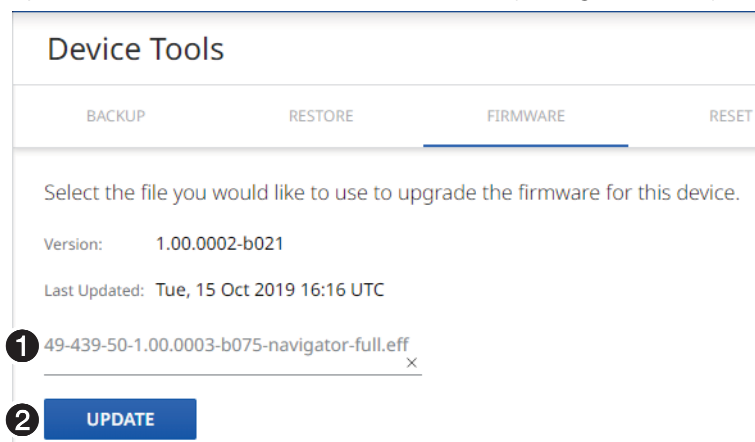

Figure 77. Device Page with Firmware File Identified
7. Click **Open** (❷). The Open dialog box closes and the Device Tools page returns to the top, with the selected firmware file identified (see figure 77, ❶).